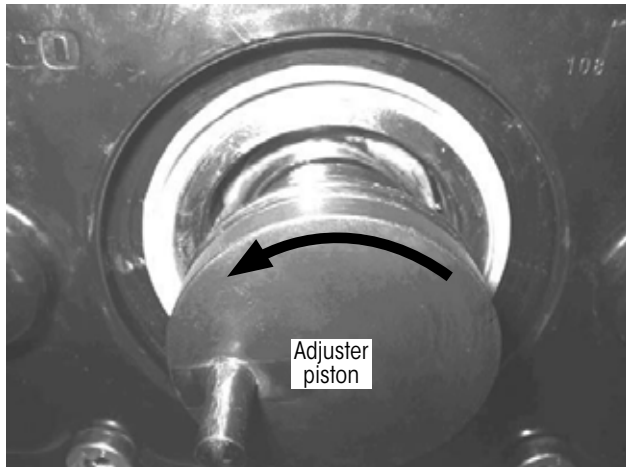

Figure 77: Rotating adjuster
8. **Manually turn** adjuster piston counterclockwise about 1.18" (30 mm) out of the brake caliper (Figure 77).